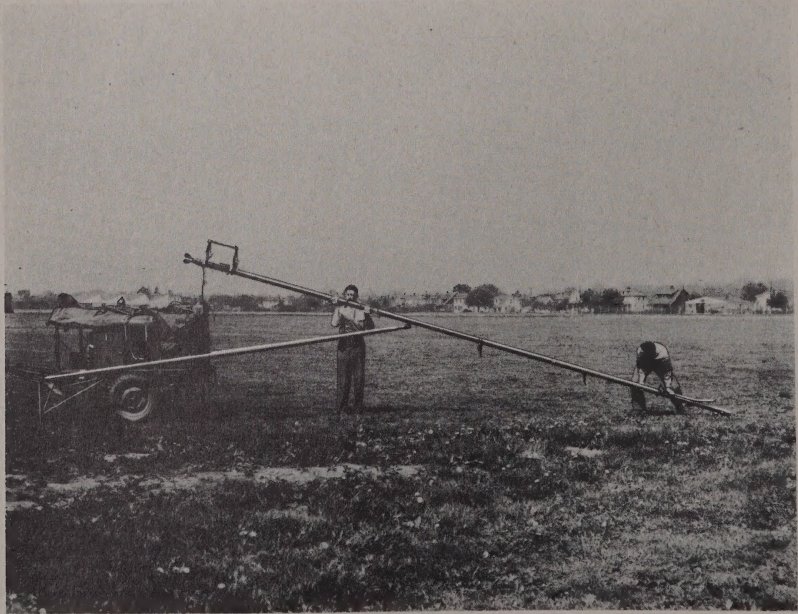

Figure 2-7. Radio Set AN/CRN-2—Erection of Guy Poles and Antenna
(5) Rest the mast on the trailer and attach the guy poles to the mast and to the outriggers on the trailer. (See fig. 2-7.)
(6) Remove the obstacle light, the screen, the upper antenna, and the lower antenna from their locations above the gasoline-engine generator.
(8) Cap the obstacle light onto the tip of the mast and fasten it tight by means of the attached screw.
(9) Connect the antenna cables, found in the storage box in back of the transmitter, to the upper antenna and strap them to the pole *but do not fasten the lower strap at this time.*
(10) Lift the mast at the support and grasp the mast at the lower end pushing the lower end of the mast toward the trailer (See fig. 2-7.) Raise it until it is in position to lower the end into its socket. Close the bottom clamp on the socket.
(11) Fasten the lower mast strap to support the cables, and connect the obstruction-light and upper antenna cables to their proper outlets at the rear of